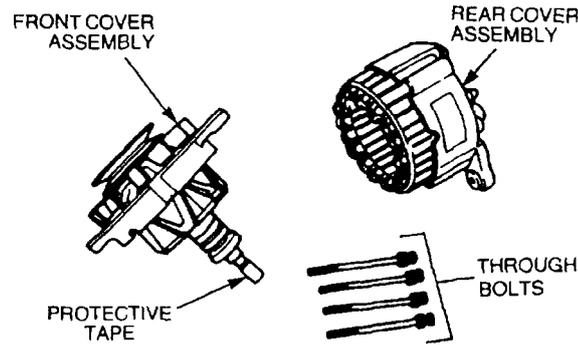

Figure 287 Removing the Alternator Rear Cover
- (1) Match mark the stator and rear cover to enable them to be reassembled in their correct positions.
- (2) Apply suitable protective tape to the rotor shaft splines, remove the through-bolts that secure the rear cover to the front cover and carefully remove the rear cover assembly from the front cover assembly (Figure 287), taking care not to dislodge the stator coils and damage the rear seal.